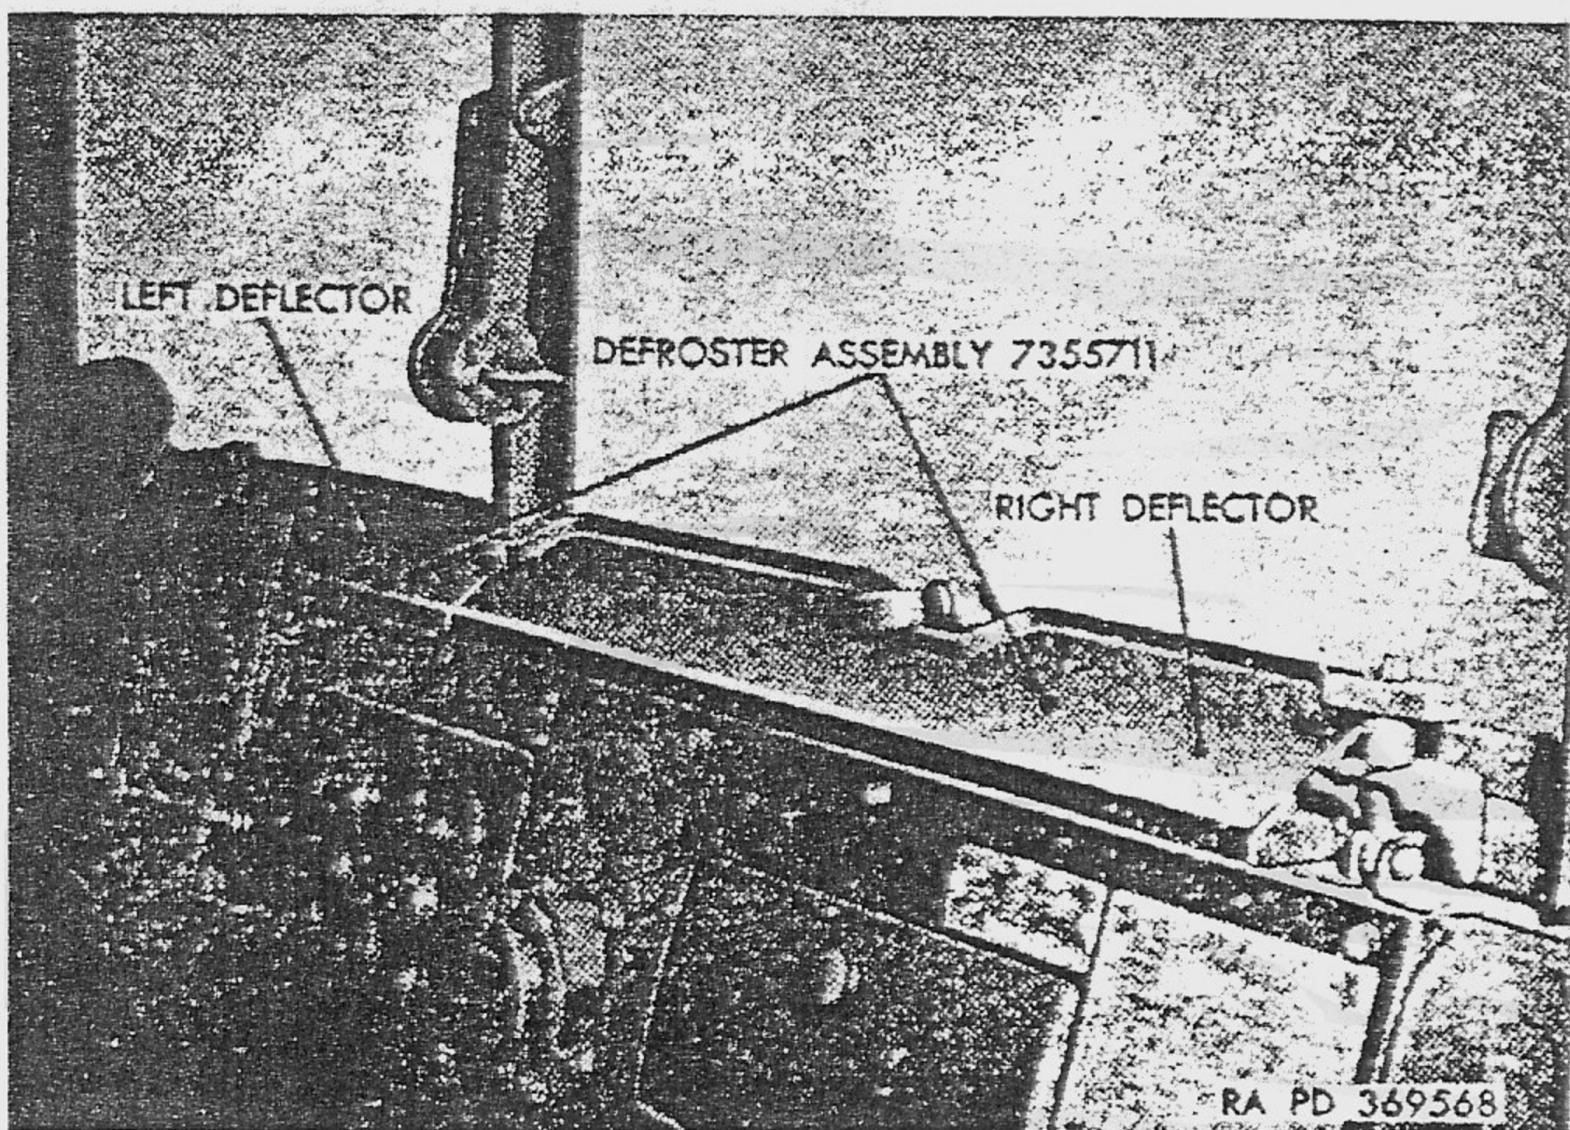

Figure 14. Defroster assembly installation.
8. Defroster Assembly. a. To install the windshield defroster assembly which consists of right heat deflector (A, fig. 1) and left heat deflector (H, fig. 1), place the right and left deflectors in position on the lower windshield frame and mark for drilling the mounting screw holes. Drill five holes with a No. 21 drill (0.159) and attach the deflectors with five No. 10-32 x $\frac{3}{8}$ pan-head thread-cutting screws 171730 as shown in figure 14.